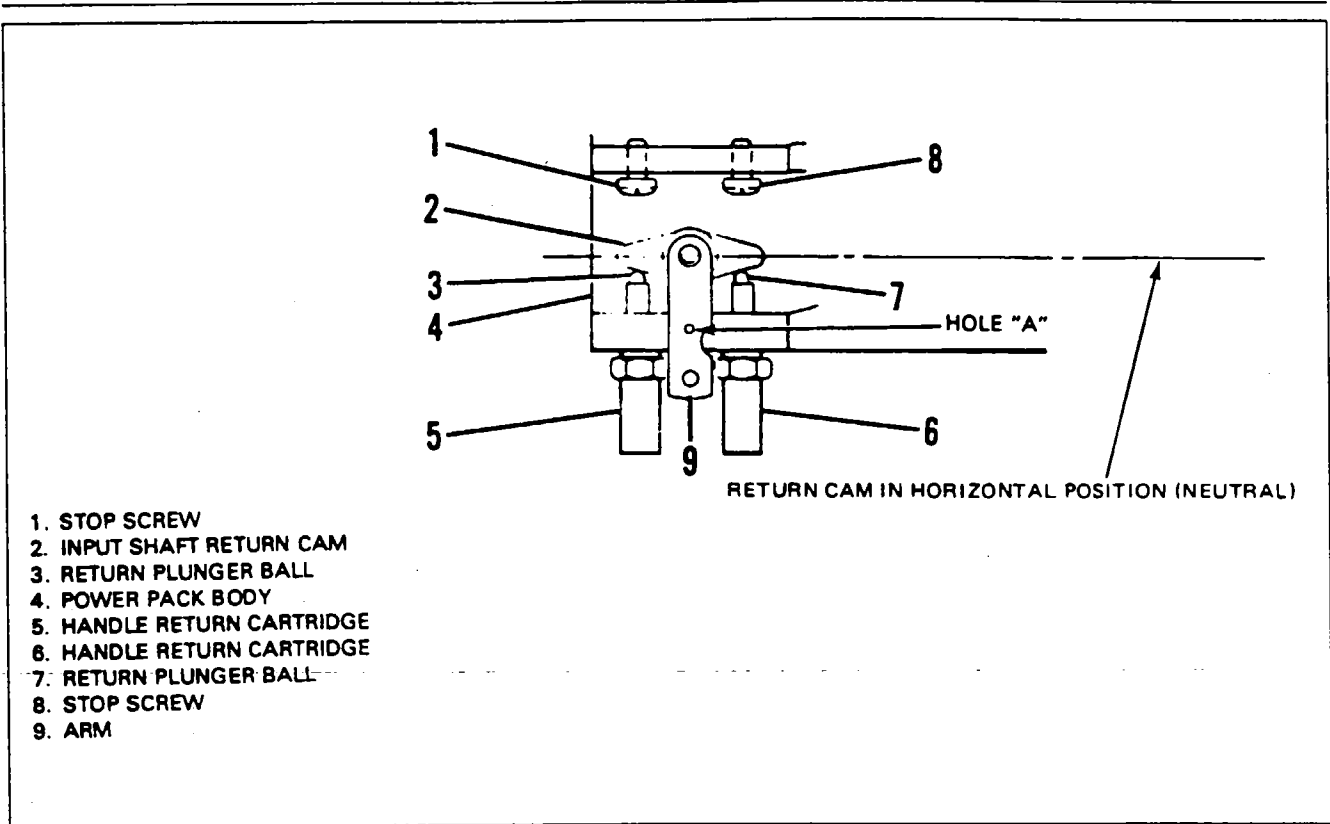

Figure 29-12. Handle-Release Adjustment
ADJUSTMENT OF HANDLE-RELEASE MECHANISM. (Refer to Figure 29-12.)
4. Hold the input shaft return cam in the horizontal (neutral) position by inserting a .125 dia. drill or punch through hole in the arm and into rigging hole in body. Rigging hole is noted as hole "A" in Figure 29-12. Adjust handle return cartridges in such a manner that their return plunger balls touch the surface of the input shaft return cam slightly.